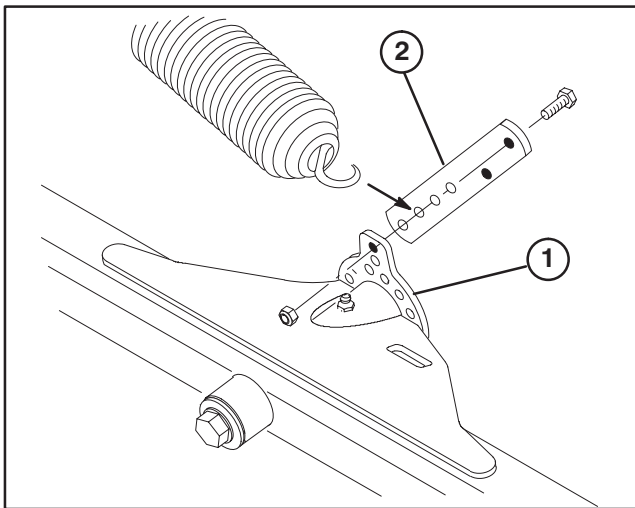

Figure 15
Reelmaster 2600 (Fig. 15 – 17)
1. Mount a spring anchor to rear inboard side of each front cutting unit lift tab with (2) 1/4–20 x 3/4" lg. capscrews and locknuts, as shown in figure 15.
2. On front cutting units, hook spring into second hole from bottom (#3 position) in spring anchor (Fig. 15).